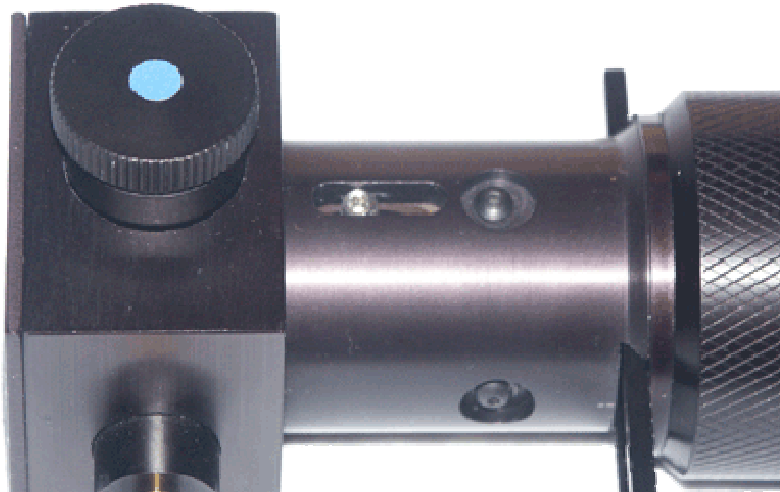
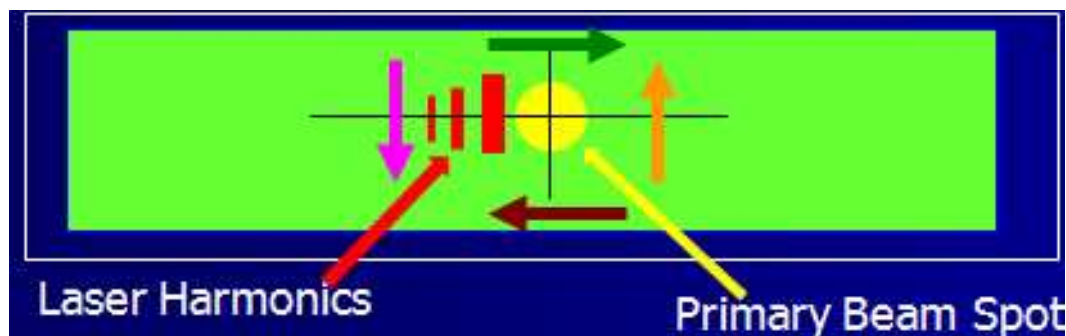

Figure 3-22: Alignment Control Socket
Figure 3-23: Centering the Primary Beam
- Use the T-handle in the *Alignment* control socket (Figure 3-22) and center the primary beam onto the crossline on the Fluorescence Centering Target. The primary spot that is to be centered is the largest, brightest spot (Figure 3-23).